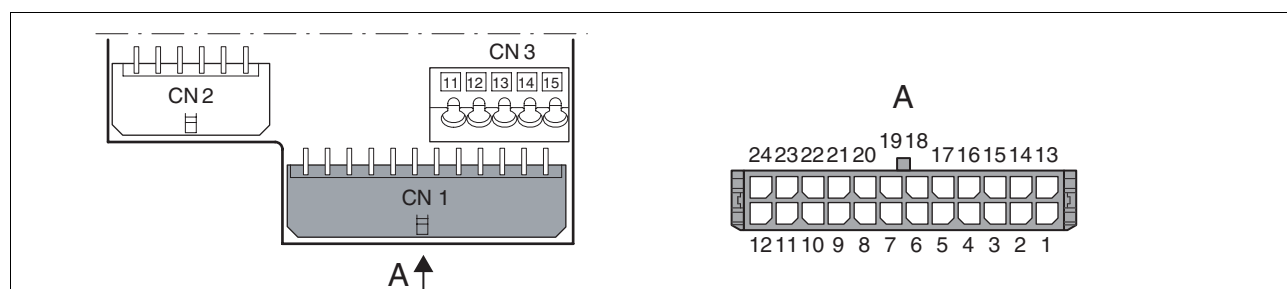

Figure 4.15 Wiring diagram signal interface
- ▶ (1) Remove the cable sheath to length A.
- ▶ (2) Slide the shield braiding back over the cable sheath.
- ▶ (3+4) Crimp the plug contacts to the braided wires. Isolate the shield braiding with shrink wrap. Plug the crimp contacts into the connector shell; for the pin assignment see Figure 4.15.
- ▶ (5) Sheath the cable to length C on the position shown, the cable is fastened there at the EMC plate with a clamp (shield-ground connection).